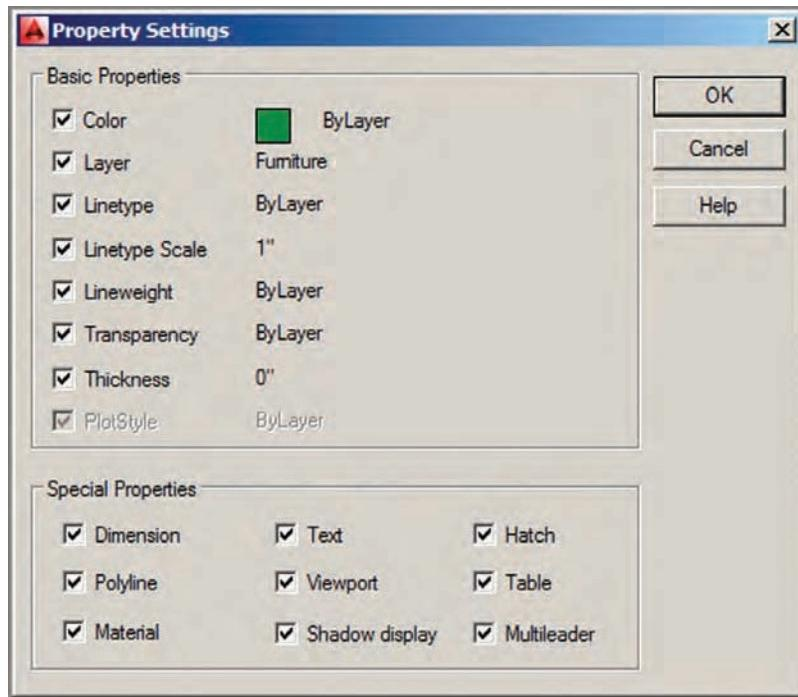

**FIGURE 6.10** Changing layer assignment with the Layer drop-down menu
3. Open the Layer drop-down menu in Quick Properties, and click Furniture (see Figure 6.10) to change the layer assignment of the selected items. Press Esc to deselect.